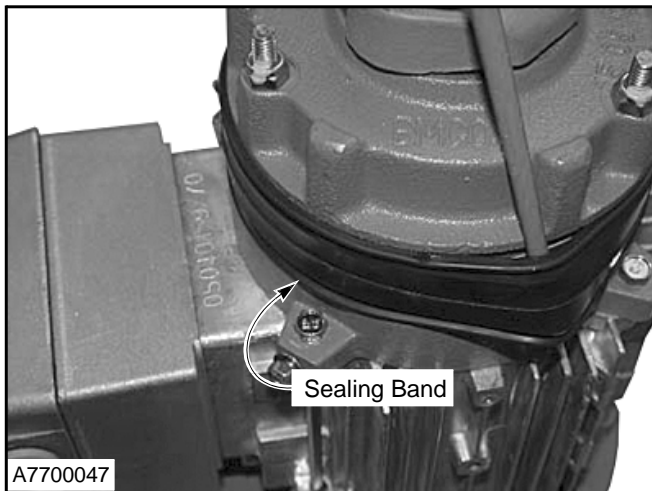

Figure 39
3. Remove sealing band. (See Figure 39.)